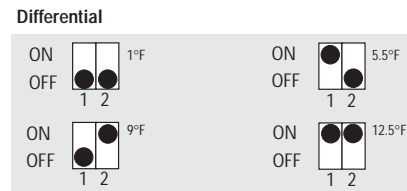

Fig. 17
- 1, 2 differential (Fig. 17)
It is possible to modify the differential from 1°F minimum to 12.5°F maximum (Fig. 17). Simply shift the first two dip-switches to the ON or OFF position according to the wanted value.